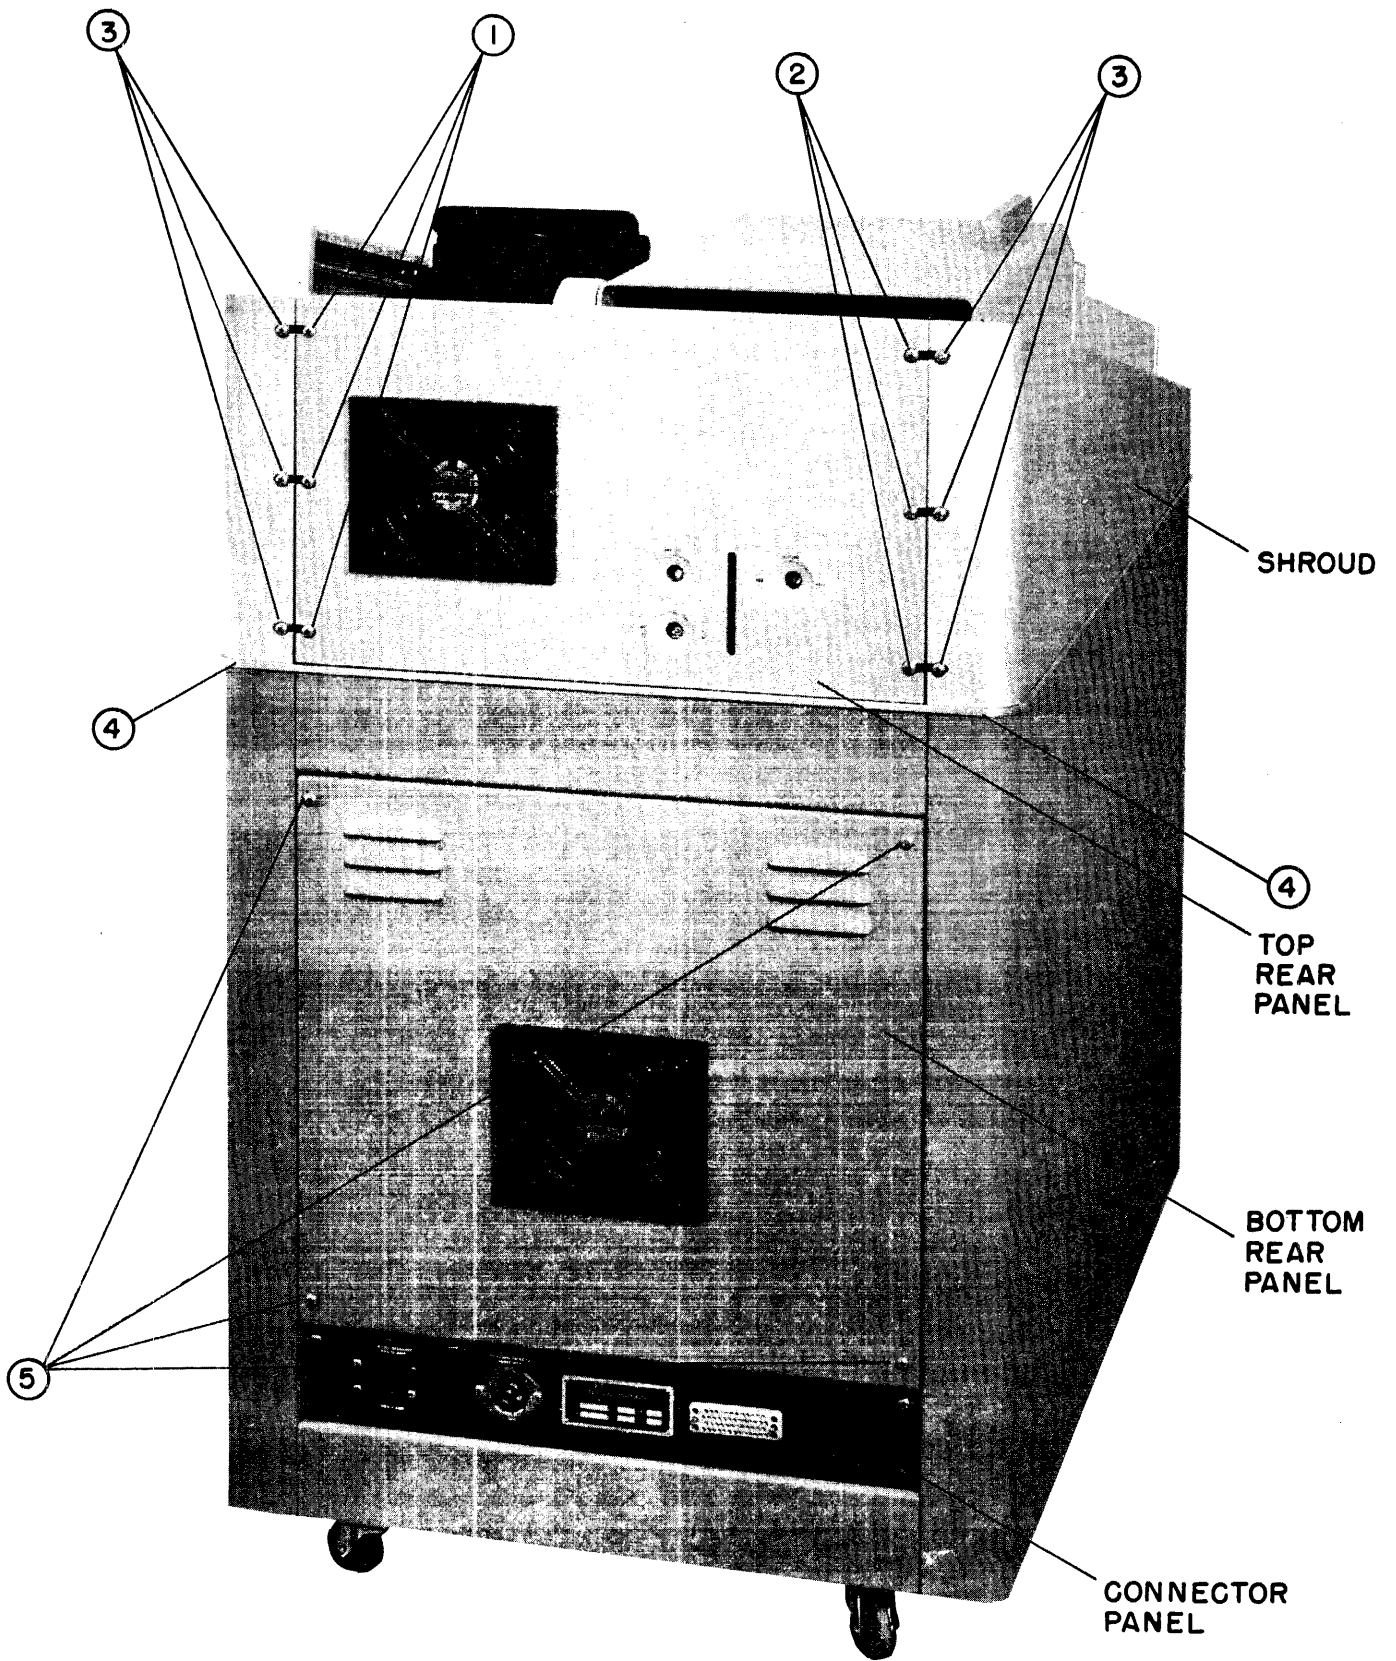
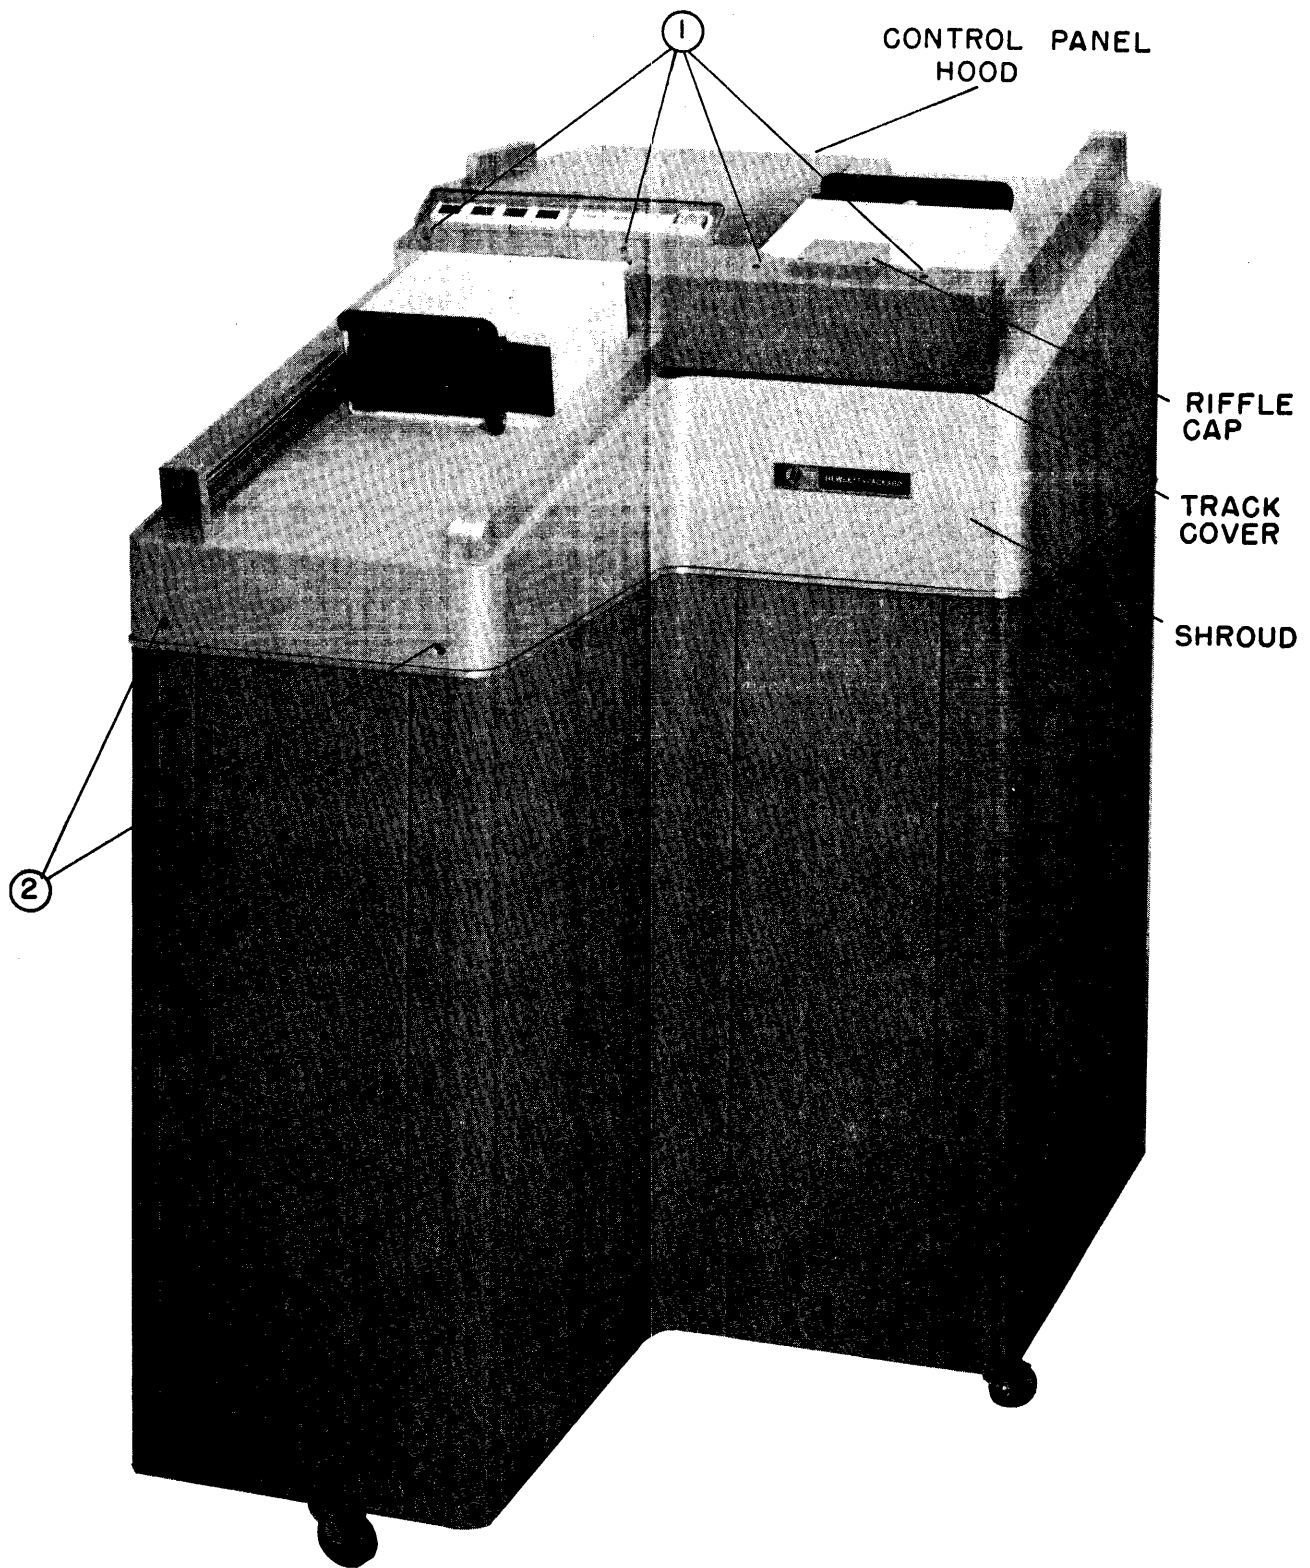

Figure 6-1. Card Reader Console, Rear View
Figure 6-2. Card Reader Console, Front View
Using a #2 Phillips screwdriver, remove the three screws and flat washers ① and LOOSEN the three screws ② which hold the top rear panel to the main frame, figure 6-1. Slide top rear panel to left and move it out slightly. Disconnect fan motor connector and remove top rear panel.
Using a #2 Phillips screwdriver, remove the two screws ② from the front of the shroud, figure 6-2. Using the same tool, LOOSEN the six screws ③ which hold the shroud to the main frame, figure 6-1. With both hands grasp the shroud at the points indicated ④. Spread shroud and carefully lift it over top of card reader.
Using a #2 Phillips screwdriver, remove the four screws and flat washers ⑤ which hold the bottom rear cover to the cabinet frame, figure 6-1. Move panel out slightly, disconnect fan motor connector and remove bottom rear panel.
Using a 5/64 Allen wrench, remove the four screws ① which secure the track cover to the main frame and remove the track cover, figure 6-2.
Using a 5/64 Allen wrench, remove the three screws on right side of the control panel hood (as viewed from back of cabinet), figure 6-1. Using a 5/64 Allen wrench, remove the two screws left side of the control panel hood.
- a. Using a 3/32 Allen wrench, remove the two screws holding the riffle air cap, figure 6-2.